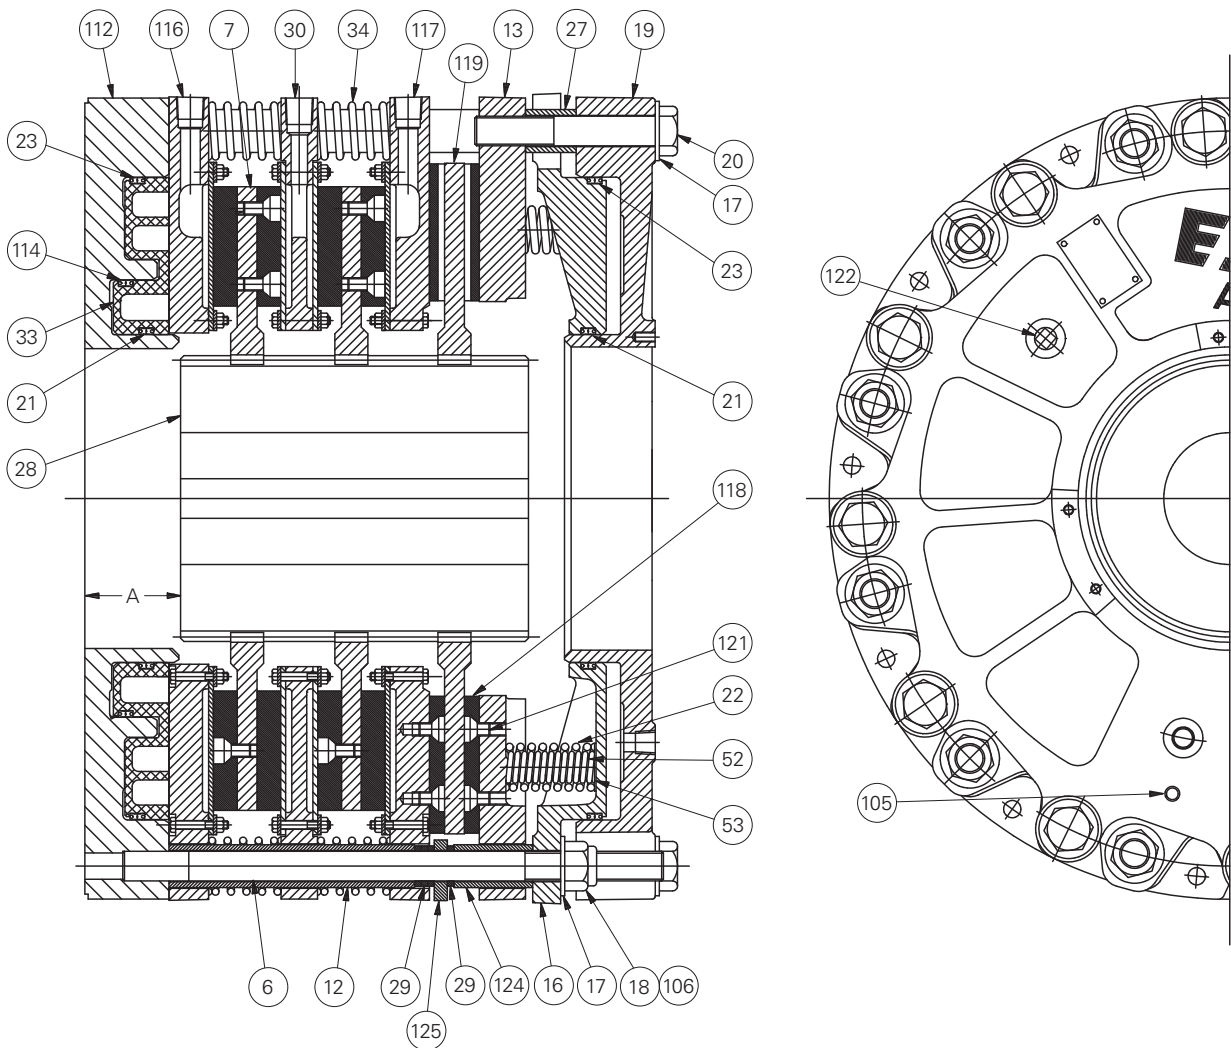

Figure 1
- 1.1.5 The air applied pistons in the WCSB tensioner / brake assemblies are available in either single or dual piston designs. The WCSB tensioner / brake assemblies dual mounting flange / cylinder (112) and dual piston (33) assembly (112) offers precise tensioning control by dividing the piston / cylinder into inner and outer chambers that are isolated by intermediate seals (114). Also, for light tensioning loads, the inner chamber is used, not the outer chamber. See Figure 1. This provides the ability to improve fine modulation of clamping pressure on the tensioner discs and improved control over our standard single chamber design. For very light tensioning loads, the outer piston can be used solely, with no pressure applied to the inner piston. For the largest tensioning loads, both pistons can be used together. If it is desirable to operate the WCSB tensioner / brake assembly at maximum tensioning load and not utilize the precise tensioning feature, the WCSB tensioner / brake assembly can be ordered without the intermediate piston seal (114).
- 1.2.1 Referring to Figure 1, the gear (28) is mounted on the shaft which is to be stopped and the tensioner assembly is attached to the machine frame or a reaction bracket.
- 2.1.4 Refer to the appropriate assembly drawing for the setup dimension between the tensioner mounting surface and the end of the gear (dimension "A" on Figure 1). Gears should be positioned to ensure that when the tensioner is mounted the disc splines will not overhang the end of the gear when components are in both new and worn conditions. The gear is typically bored and keyed for a resulting Class FN2S interference fit for inch shafting and ISO System S7h6 for metric shafting. Contact Airflex Application Engineering for specific recommendations.
2.2.4 Heat the gear uniformly to 250°F (121°C) to expand the bore and ease assembly. Press the gear onto the shaft, making sure that the dimension between the gear and the tensioner mounting surface ("A") is maintained. See Figure 1. Allow the gear to cool.